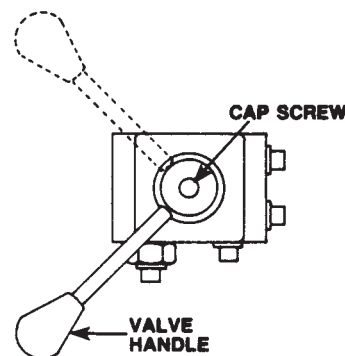

Figure 1
- Valve handle can be moved to the desired position by loosening the cap screw and rotating in increments of $22\text{-}1/2^\circ$. Torque cap screw to 60/80 in. lbs. See Figure 1.